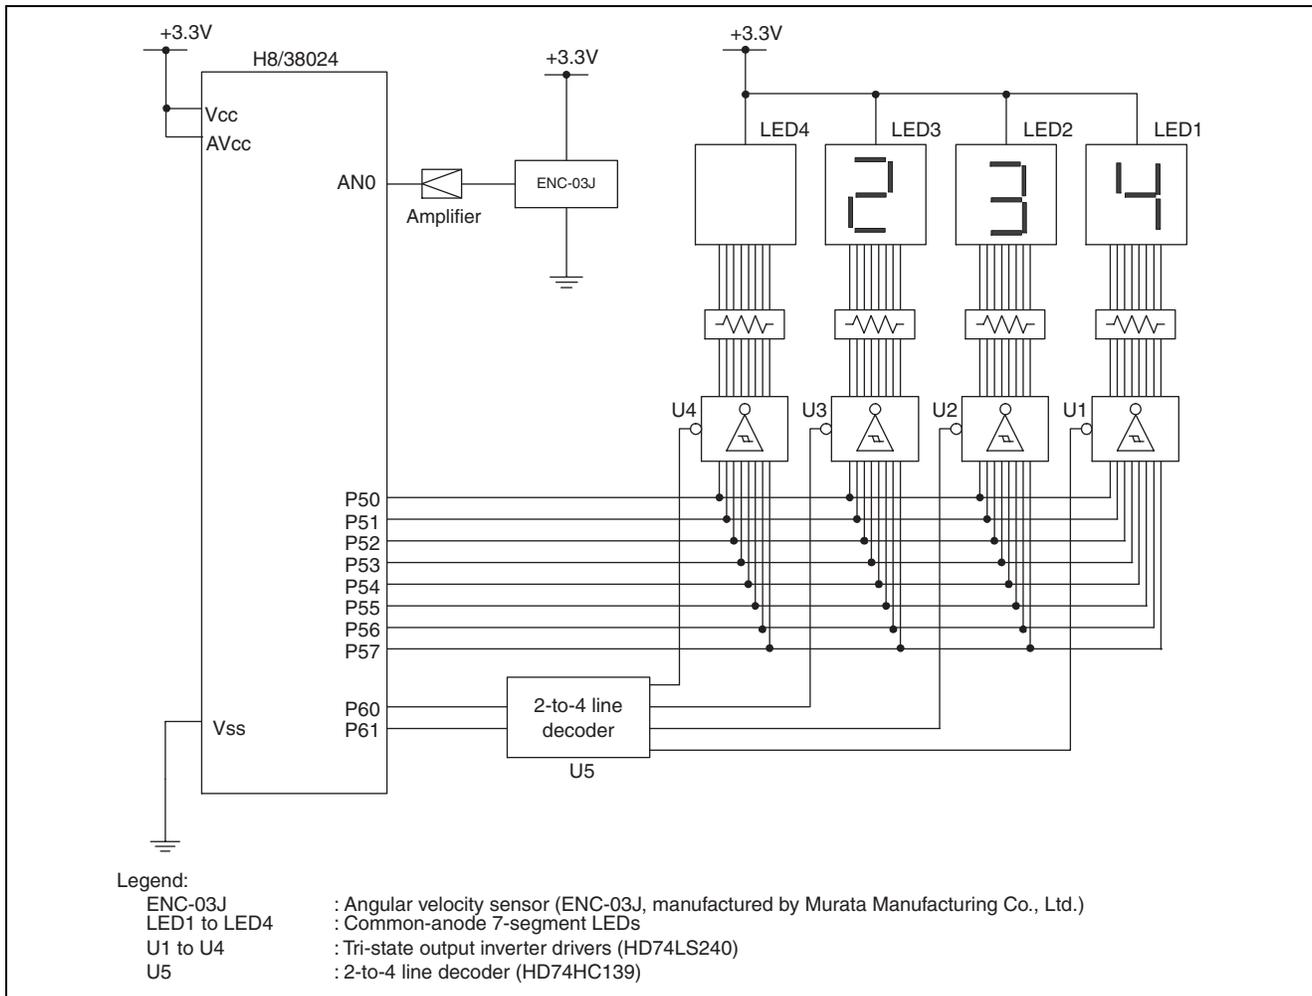

Figure 1 Hardware Configuration
- Figure 1 shows an example hardware configuration for connecting a piezoelectric gyroscope. As shown in this figure, the sensor is connected to analog input pin 0 (AN0 pin).
- C. The value "234" in Figure 1 indicates that the angular velocity is 234 (deg/sec).